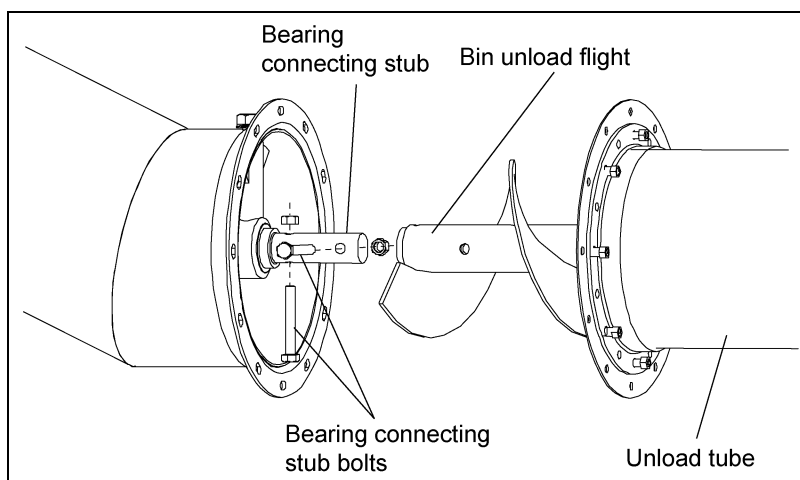

Figure 4D
5. With holes aligned, secure with bearing connecting stub bolts and nuts that were removed in Step 2. (See Figure 4D.)